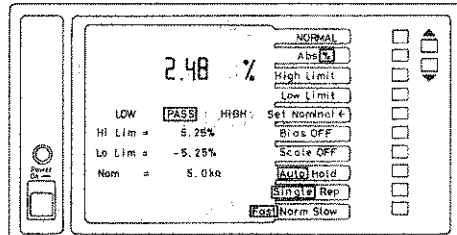

Fig. 5.5 A typical Limits mode display
As stated in 4.2, this mode allows the operator to key in upper and lower pass limits on major or minor terms, as % tolerances on a nominal value or as absolute values. A typical Limits mode display is shown in Fig. 5.5.
- 7 Connect each component, in sequence. The display will show LOW, PASS or HIGH, together with the % departure from the nominal value (see Fig. 5.5).